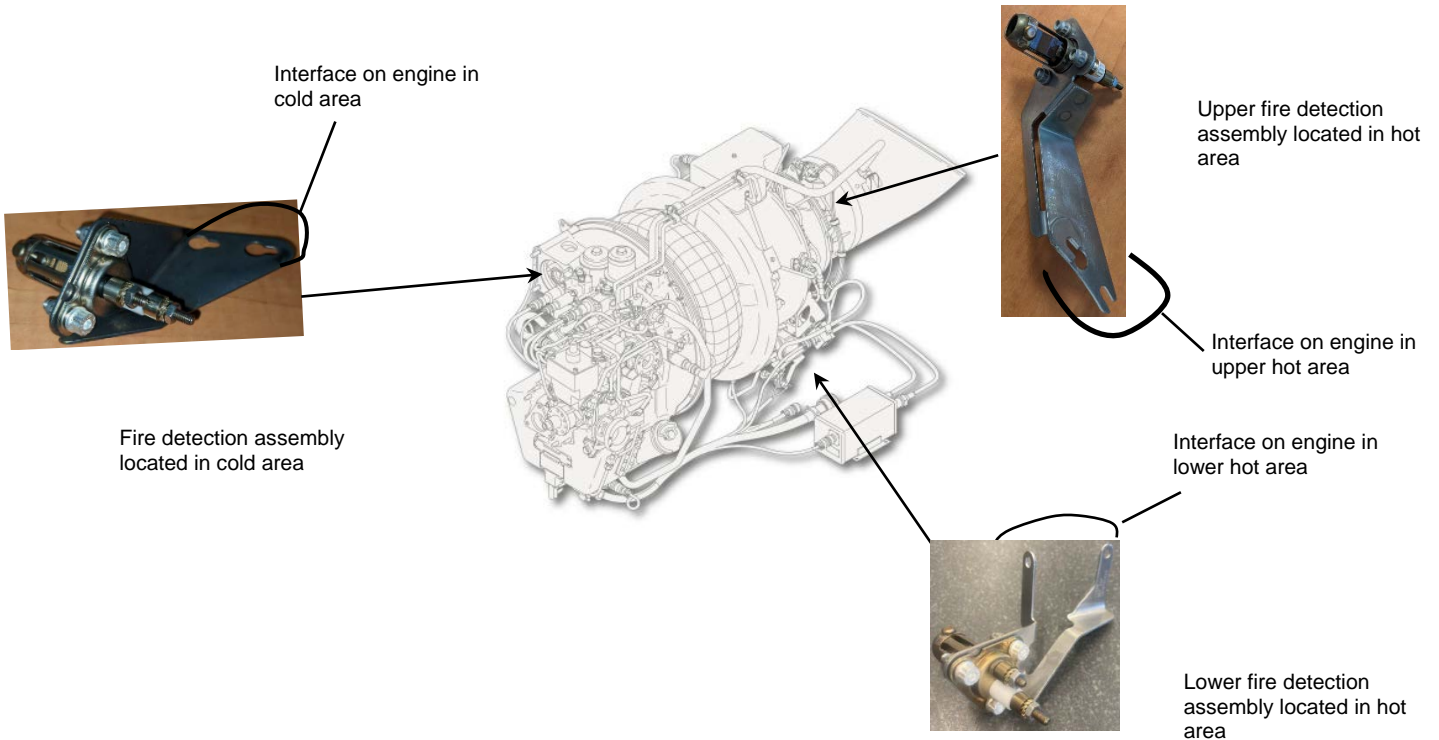

Figure 2
1.1.3. Solution (Figure 2)
Safran Helicopter Engines developed TF 99 modification that creates an inseparable fire detection assembly that includes the detector and its support, for each of the three locations (cold area and upper and lower hot area). These three POST TF 99 fire detection assemblies have an interface on engine that is different and thus they are no longer interchangeable by mistake (Figure 2)